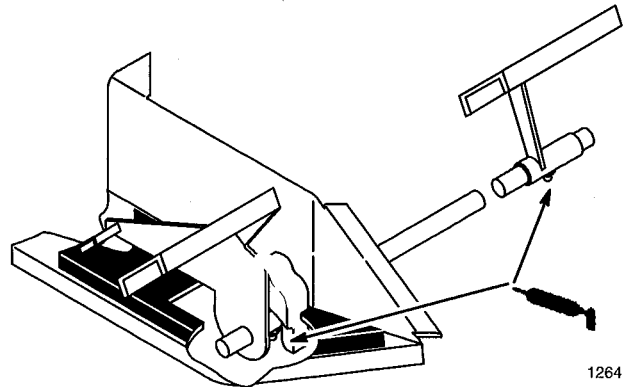

Figure 23
3. Lubricate the traction control pedal on hydrostatic models (or brake and clutch pedals on gear drive models) where they pivot on mounting shaft (Fig. 23).